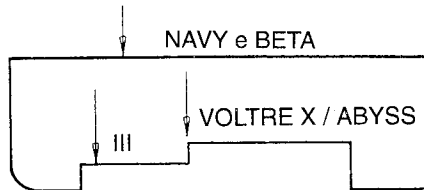

FIG. 24
16. Adjust demand lever height using the demand lever height gauge. The demand lever height gauge sides are marked with the second stage model. Place the side of the demand lever height gauge marked with the corresponding model across the second stage case (Fig 24).